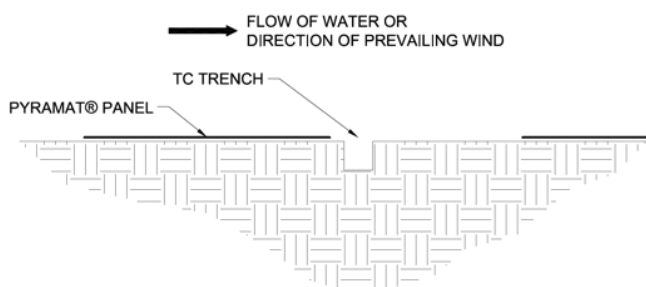
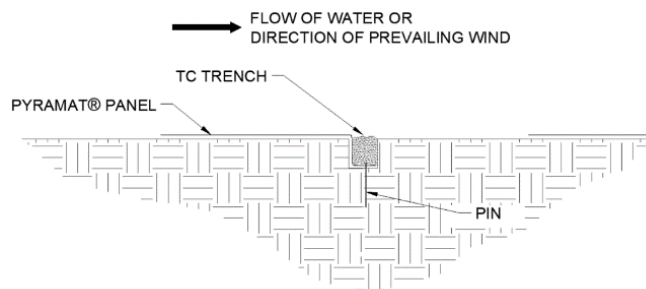

Figure 17: Terminal Channel (TC) trench alignment
Figure 18: Terminal Channel (TC) trench placement
14. Lay the last panel on the upstream side of the TC trench (Figure 17). Place the panel edge in the TC trench, ensuring full coverage along the bottom of the entire TC trench with the **PROPEX** Pyramat (Figure 18).
15. Secure **PROPEX** Pyramat with pins in the TC trench. Suggested placement of pins for the TC trench is along the bottom of the trench with pins on 12 in (300 mm) centers (Figure 18).
16. Backfill and compact the TC trench (Figure 18).